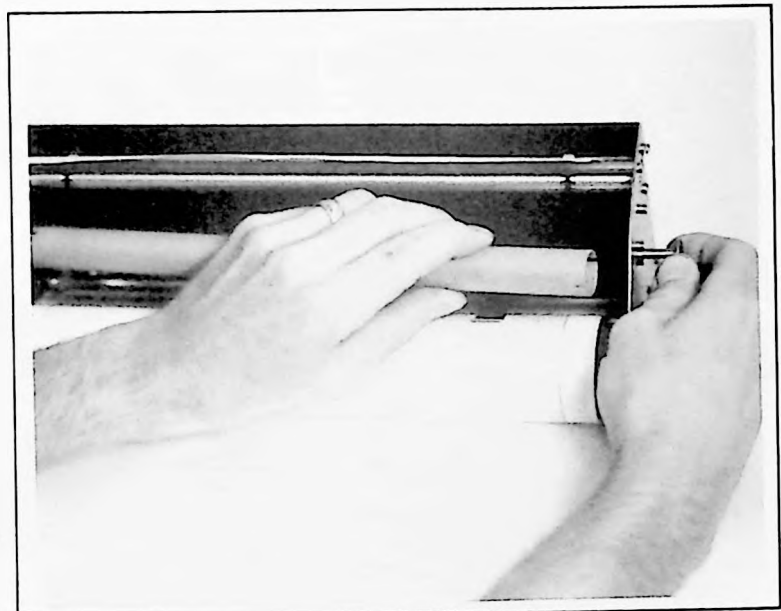

Figure 3-11. Take-Up Spool Installation
g. If chart rewind is desired, set magazine on face and insert take-up spool. See Figure 3-11.